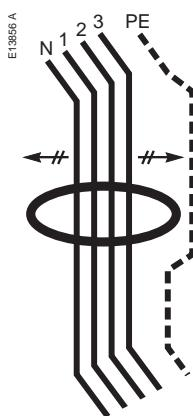

figure 1
- use a toroid with a much larger diameter than the cable going through it $2 \times \text{dia}$ (fig.1).